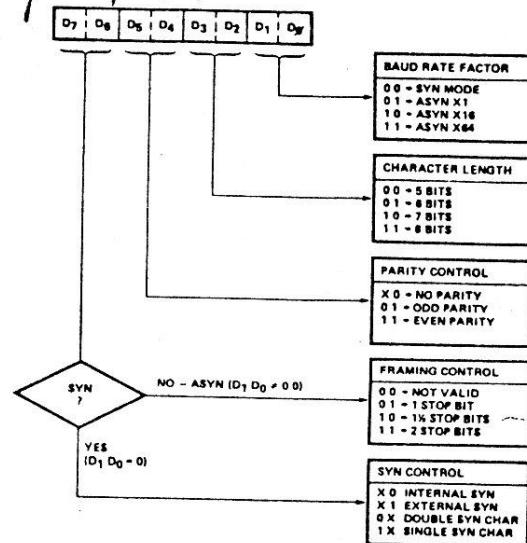

Figure 5. Mode Instruction Format
register. The mode control register is loaded by the first control output ( $C/D=1$ ,  $RD=1$ ,  $WR=0$ ,  $CS=0$ ) following a reset. The format of the mode control instruction is shown in Figure 5. The instruction can be considered as four 2-bit fields. The first 2-bit field ( $D_1 D_0$ ) determines whether the USART is to operate in the synchronous (00) or asynchronous mode. In the asynchronous mode this field also controls the clock scaling factor. As an example, if  $D_1$  and  $D_0$  are both ones, the  $RxC$  and  $TxC$  will be divided by 64 to establish the baud rate. The second field,  $D_3-D_2$ , determines the number of data bits in the character and the third,  $D_5-D_4$ , controls parity generation. Note that the parity bit (if enabled) is added to the data bits and is not considered as part of them when setting up the character length. As an example, standard ASCII transmission, which is seven data bits plus even parity, would be specified as: